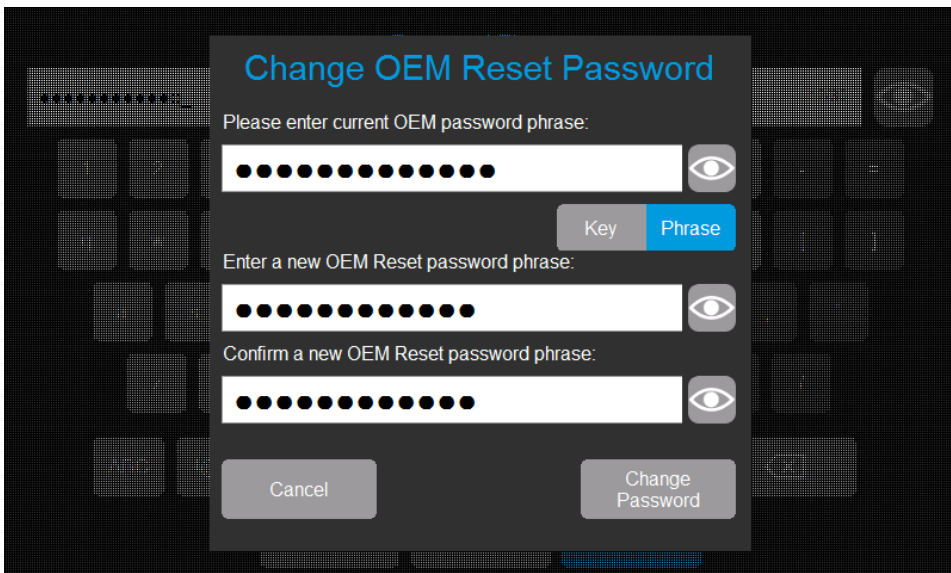

Fig. 84: Change OEM Reset Password dialog box with entered password.
6. When the Change OEM Reset Password dialog box reappears (refer to Fig. 84), select Change Password.